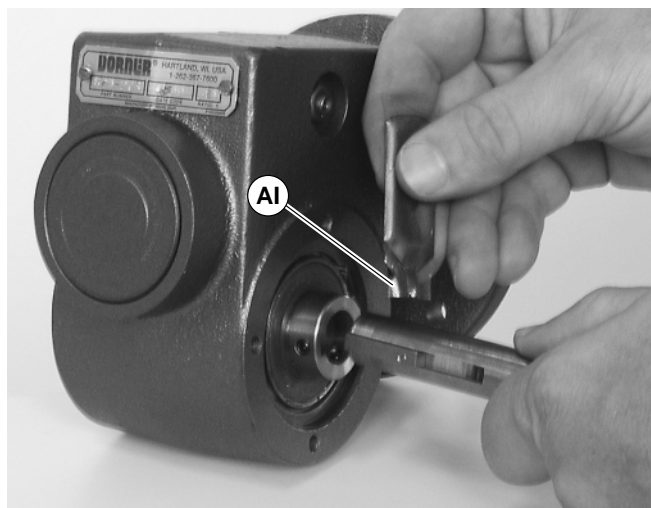

Figure 18
9. Apply grease (AI of Figure 18) to shaft.